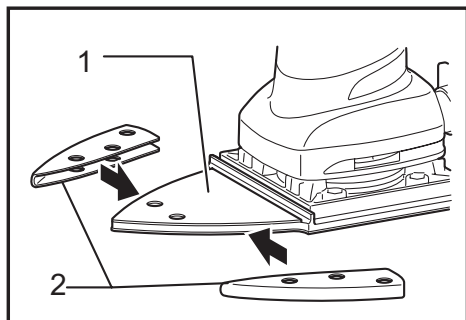

Fig.4
- Fig.4: 1. Base 2. Velcro sandpaper